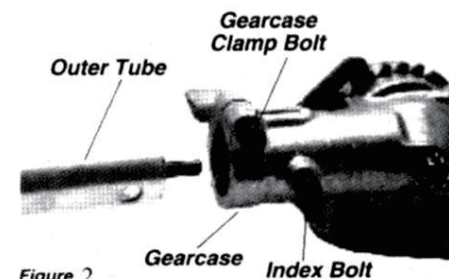

Figure 2
- Fasten the pipe clamp securely with two clamp screws see figure 2
- Lubricate the gearcase. To perform this operation, first remove the gearcase from the outer tube (Figure 2):